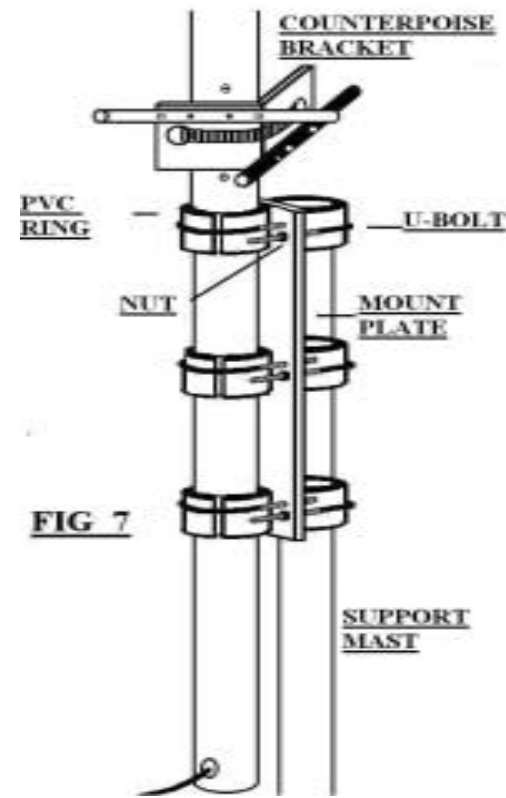

FIGURE 7
5.4 POLE MOUNT ASSEMBLY-REFER TO FIGURE 7
- B) Insert the U-bolts into the plate as shown in figure 7